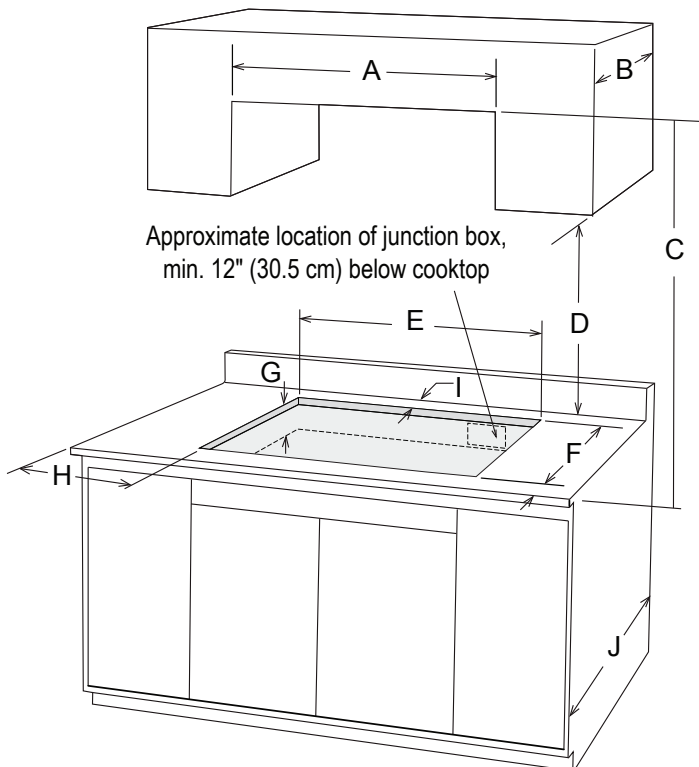

Figure 5
- The approximate location of the junction box should be a minimum of 12" (30.5 cm) below the cooktop. See Figure 5.